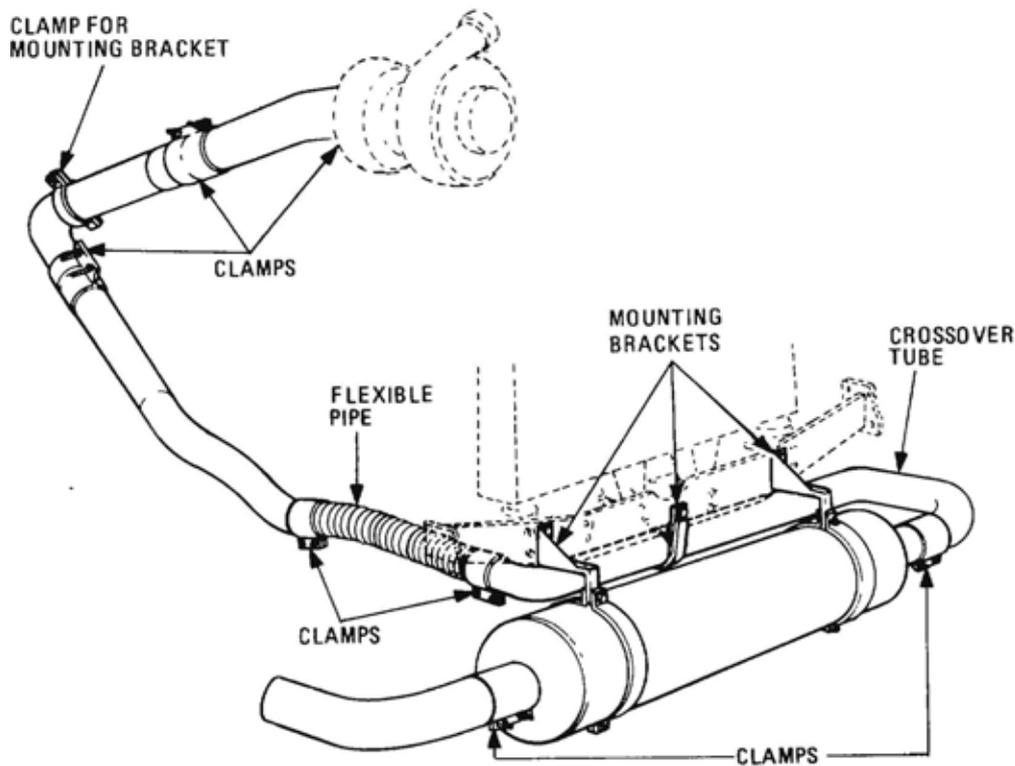

Figure 34 Exhaust System
49. The exhaust system on the vehicle consists of a muffler, a flexible steel and asbestos pipe and five pipes made from tubular steel, all joined together by steel broad band clamps (Figure 34). The upper section of the exhaust system is connected by a clamp to the turbocharger exhaust outlet and held in position by a rigid mounting bracket attached to the flywheel housing. The lower section of the exhaust system is rigidly mounted to the radiator support crossmember by three brackets, one on the crossover pipe and two on the muffler. The flexible pipe joining the upper section to the lower section acts as an insulator, absorbing engine vibrations that would otherwise be transmitted along the rigidly mounted exhaust system to the chassis. It also takes up opposing movements of the chassis and engine, preventing the exhaust system from fracturing and thus eliminating the need for the exhaust system to be rubber mounted.